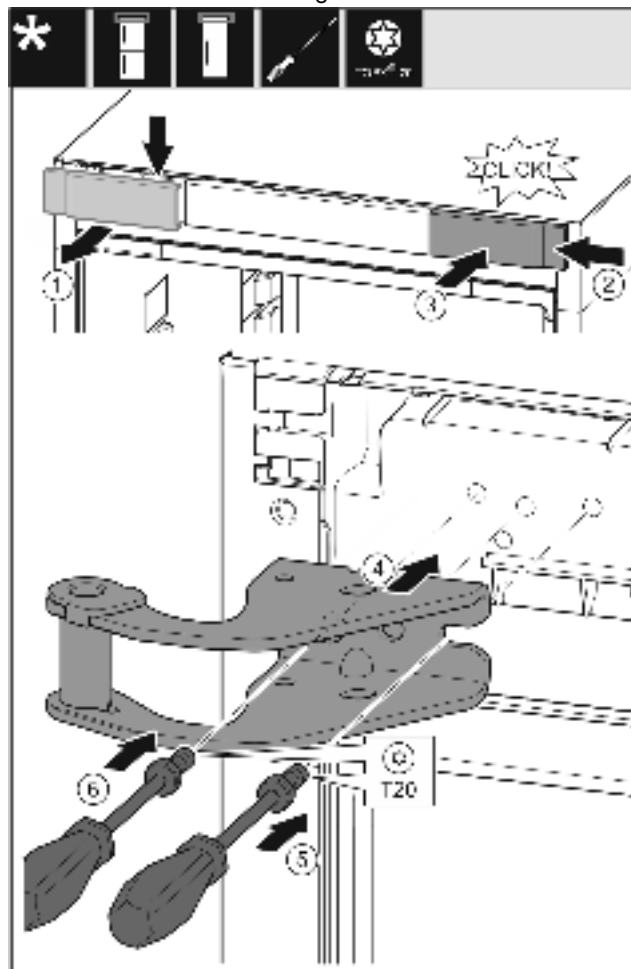

Fig. 11
- Take off the cover to the front from above. Fig. 11 (1)
- Rotate the cover 180° and clip onto the other side from the right. Fig. 11 (2)
- Latch the cover into place. Fig. 11 (3)
- Position the upper bearing bracket. *Fig. 11 (4)*
- Insert the screw with a T20 screwdriver and tighten it. *Fig. 11 (5)*
- Insert the screw with a T20 screwdriver and tighten it. *Fig. 11 (6)*